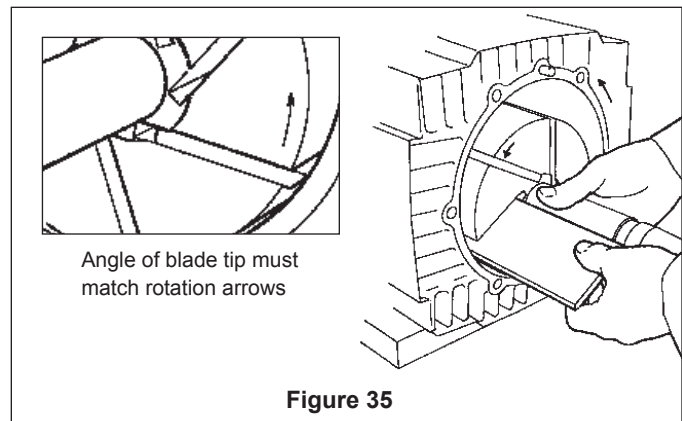

Figure 35
- With blades and hands free from oil or grease, slide blades into rotor slots, ensuring that the angle at the blade tip matches the arrows on body bore. See Figure 35.